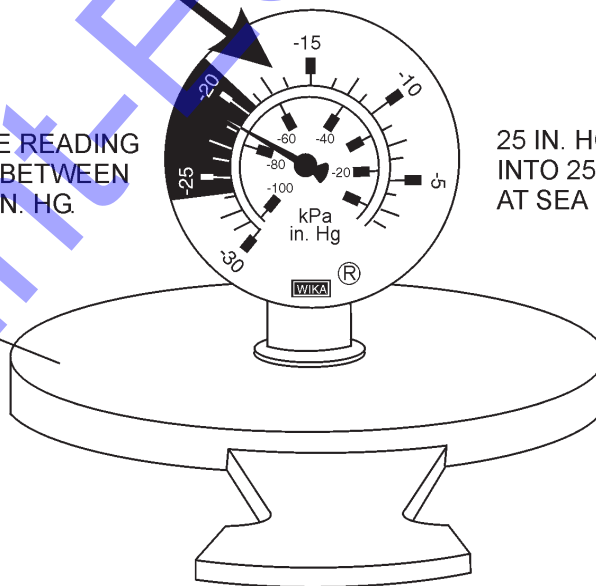

Figure 13. Pump Vacuum Tester
3. As shown in Figure 13, place a water hose inside the discharge opening of the pump, and turn on the water. This flow of water into the discharge opening will **prevent** the pump from running dry.
- \*4. Place the **Pump Vacuum Tester** (P/N 7000030) over the pump suction (inlet) opening (Figure 13) with the vacuum gauge facing upwards. It may be necessary to apply a small amount of water around the rubber seal of the vacuum tester to make a good suction fit.